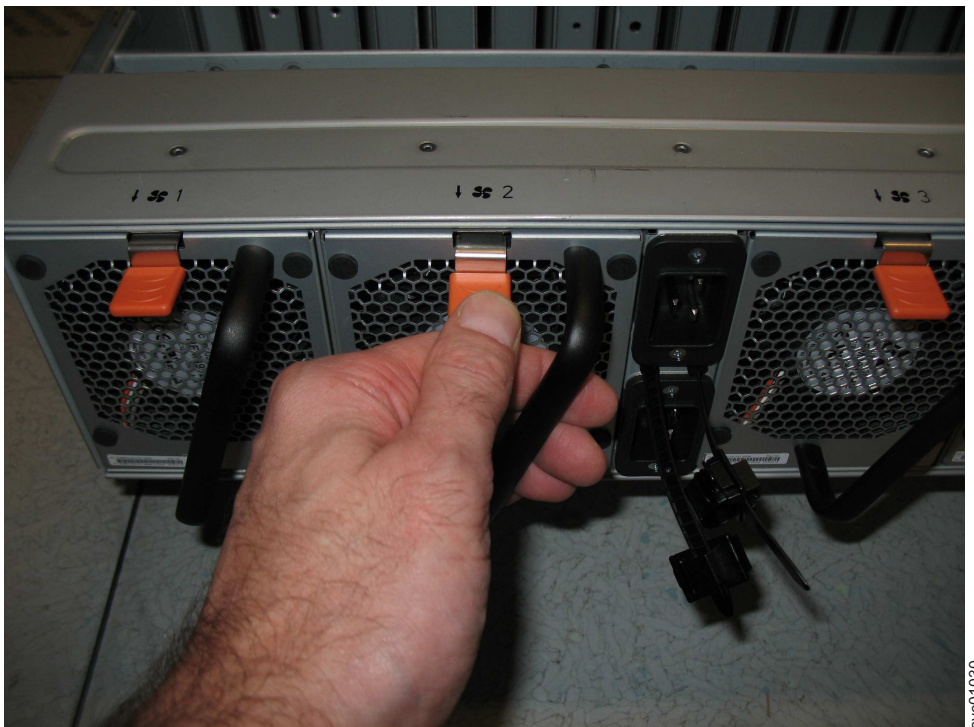

Figure 91. Fan module release tab
2. Press the release tab on the fan module, as Figure 91 shows.